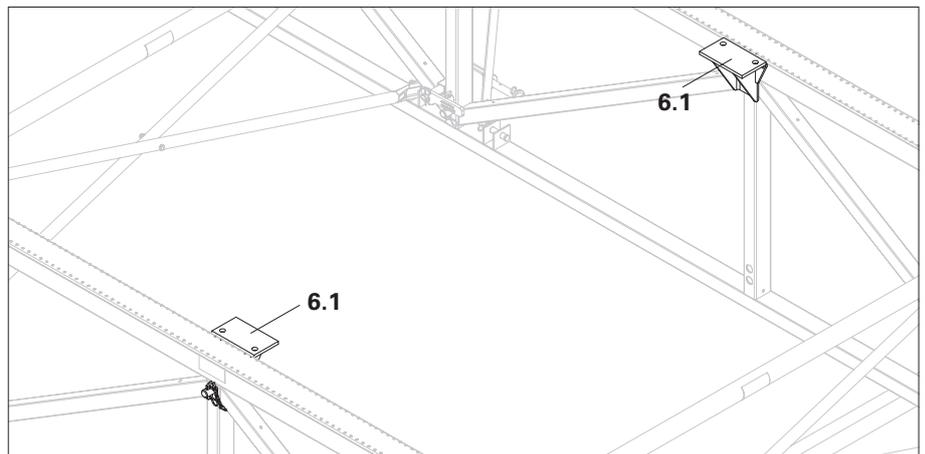

Fig. A2.12
2. Position the second support (6.1) on the top chord and secure using bolts and wedge. (Fig. A2.12)